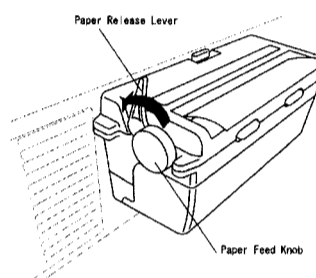

Figure 6. Paper release lever and paper feed knob
- Paper Release Lever -The lever to hold the print paper down (refer to Figure 6).
- Paper Feed Knob -The knob for paper feeding (refer to Figure 6).
3. If you are removing paper from the printer before installing new paper, push the paper release lever until it clicks in the released (open) position and remove the old paper roll. Refer to Figure 6.
- If you are removing paper from the printer before installing new paper, push the paper release lever until it clicks in the released (open) position and remove the old paper roll. Refer to Figure 6. Keep the release lever in the released (opened) position.
- The print paper does not slant relative to the paper feed direction. If the paper is slanted, raise the paper release lever to its released (open), align the paper, and then close the paper release lever. Refer to Figure 6.